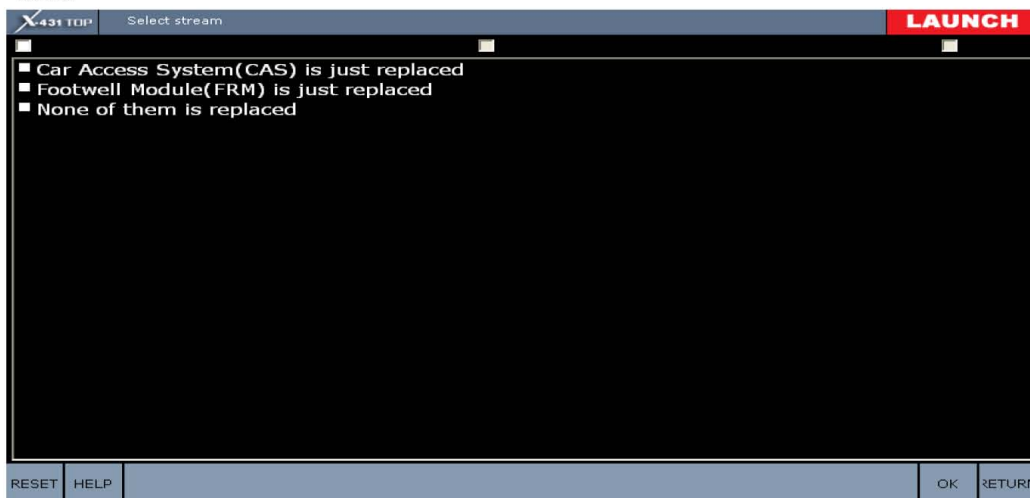

Figure 8
- 1). CODING: According to the replacement of different ECU, select relative system to code (See Figure 8). Different car data display different system lists.